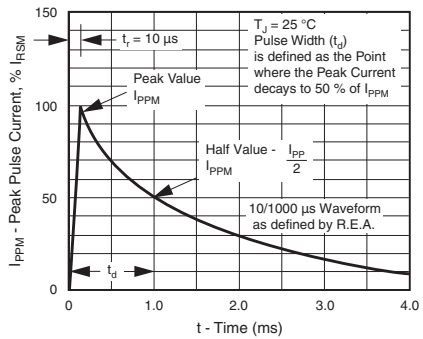
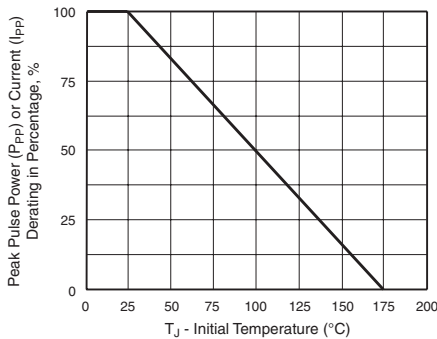

Figure 3. Pulse Waveform
Figure 2. Pulse Power or Current vs. Initial Junction Temperature
- (1) Pulse test:  $t_p \leq 50\text{ ms}$
(2) Surge current waveform per Fig. 3 and derate per Fig. 2
(3) All items and symbols are consistent with ANSI/IEEE C62.35